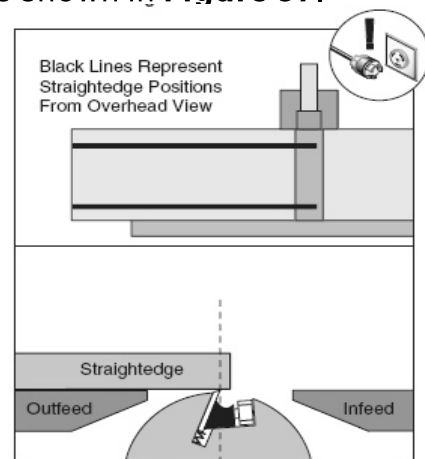

Figure 38. Checking knife height with a straightedge.
3. Using a straightedge on the outfeed table, check the height of each knife at the positions shown in **Figure 38**.
A high quality straightedge held flat against the outfeed table and the knife heights are set to the bottom of the straightedge, as shown in **Figure 38**.